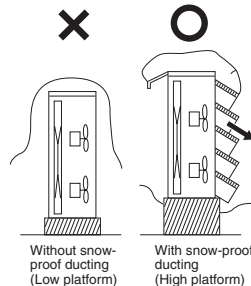

Fig. 2-7
In regions with snow and strong wind, the following problems may occur when the outdoor unit is not provided with a platform and snow-proof ducting (Fig. 2-7):
- The platform should be higher than the max. snow depth. (Fig. 2-7)